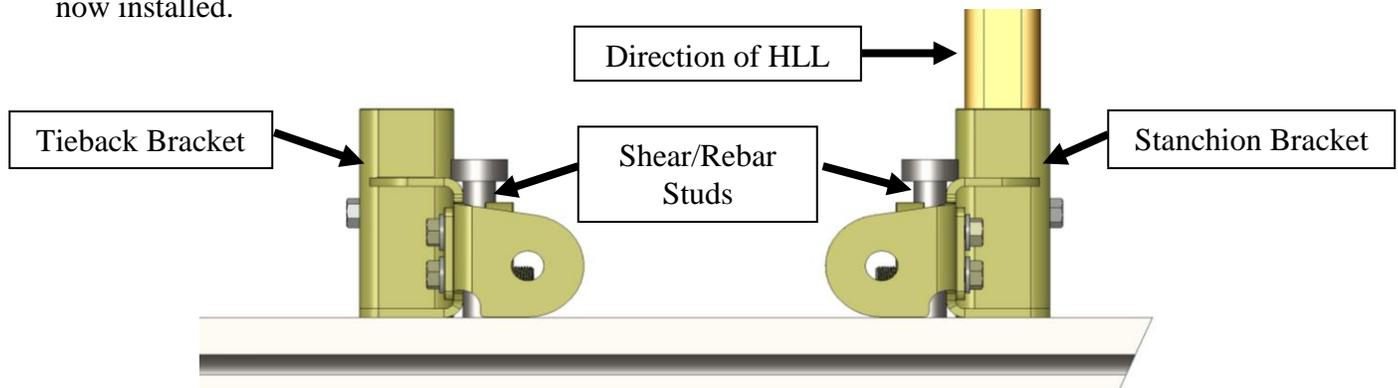

Fig. 3 Position of Brackets Relative to Shear/Rebar Studs
2. The Base Brackets that will be used as tieback plates should be attached to shear/rebar studs that are located at the end of the beam where the lifeline is to be installed. Loosen the 4 bolts that secure each of the bracket’s two grip plates (depending on the spacing of the shear/rebar stud, all of the bolts from a grip plate may have to be removed) and slide the bracket down the shear/rebar stud to rest against to top of the beam. Make sure that the holes where the tieback cables will attach are pointed towards the far end of the beam where the other end of the lifeline cable will be installed (see Fig. 3). Verify that the bracket is resting firmly against the top surface of the beam; there should be no gap present below the bottom edge of the bracket. Slide the bracket back and forth until the tie-back anchor lugs are approximately centered on the beam surface. Tighten the grip plate bolts fully to firmly press the bracket against the shear studs. Torque the bolts to a between 70- and 80-ft-lb. The tieback bracket is now installed.